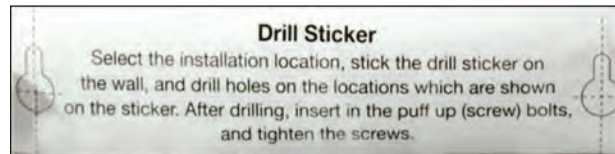

Fig. 4.78
1. Every purifier has a drilling sticker with measured marking as shown in Fig. 4.78.